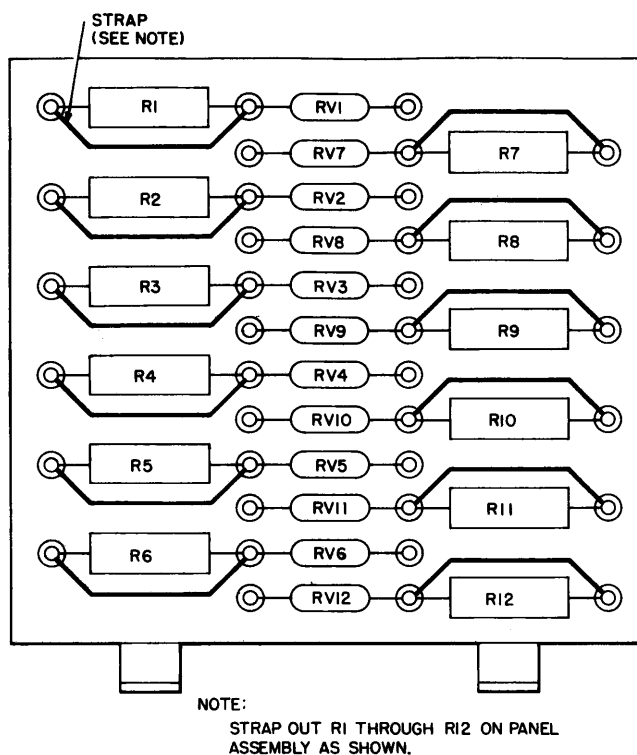

Fig. 7—Modification of Existing 253A KTUs When
2. EXISTING 253A KTU'S MUST BE MODIFIED PER FIG. 7 WHEN A 253B OR 237B KTU IS ADDED TO THE SYSTEM.
KTU'S PER FIG. 7.